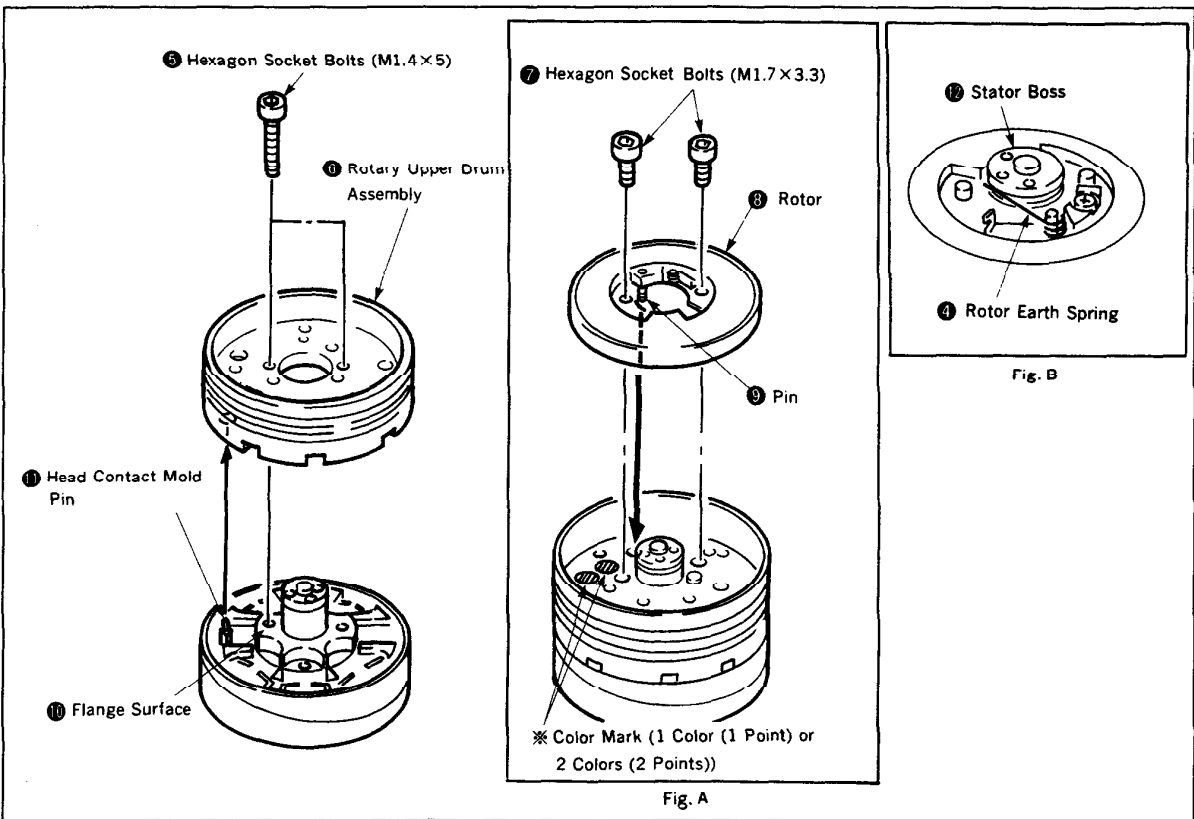

Fig. 45
There are two rotary upper drum assembly types, depending on a color mark. (Fig. A in Fig. 45)
- Using a drum screwdriver (Ref. No. J-11), remove the two hexagon socket bolts ⑤, and then, rotary upper drum assembly ⑥. (Fig. 45)
- Using the drum screwdriver (Ref. No. J-11), remove the two hexagon socket bolts ⑦, and then, rotor ⑧. (Fig. A in Fig. 45)
- Clean the flange surface ① and the surface of the rotary upper drum assembly ② which comes into contact with it, and make sure that there is no dust or scratch. (Fig. 45)
- Adjust a direction of the upper drum so that the head contact mold pin ③ will be put in the reference hole of the rotary upper drum assembly ④, and push it in lightly. (Fig. 45)
- Using the drum screwdriver (Ref. No. J-11), tighten the two hexagon socket bolts ⑤ (800g·cm) and rotate it with finger to make sure that there is no abnormality. (Fig. 45)
- Put the pin ⑥ of the rotor ⑧ in the hole of the rotary upper drum assembly. Using the drum screwdriver (Ref. No. J-11), tighten the hexagon socket bolts ⑦. (800g·cm) (Fig. A in Fig. 45)
- Remove the rotor earth spring ④ from the spring hook. Using tweezers, etc., hook it onto the groove of the stator boss ⑨. (Fig. B in Fig. 45)